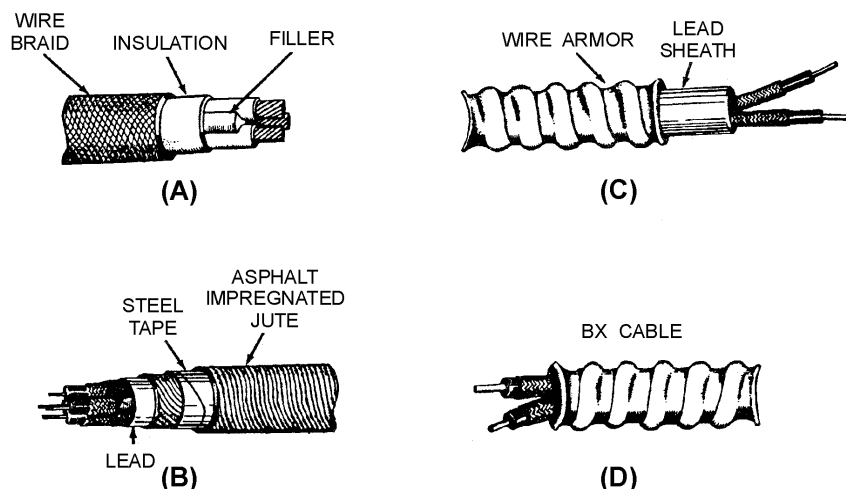

Figure 1-17.—Metallic armor cable.
Figure 1-17 shows three examples of metallic armor cable: wire braid, steel tape, and wire armor.
**WIRE-BRAID ARMOR.**—Wire-braid armor (view A of figure 1-17 ), also known as basket-weave armor, is used when light and flexible protection is needed. Wire braid is constructed much like fibrous
**STEEL TAPE.**—A second type of metallic armor is steel tape. Steel tape covering (view B of figure 1-17) is wrapped around the cable and then covered with a serving of jute. There are two types of steel tape armor. The first is called interlocking armor. Interlocking armor is applied by wrapping the tape around the cable so that each turn is overlapped by the next and is locked in place. The second type is flat-band armor. Flat-band armor consists of two layers of steel tape. The first layer is wrapped around the cable but is not overlapped. The second layer is then wrapped around the cable covering the area that was not covered by the first layer.
**WIRE ARMOR.**—Wire armor is a layer of wound metal wire wrapped around the cable. Wire armor is usually made of galvanized steel and can be used over a lead sheath (see view C of figure 1-17). It can be used with the sheath as a buried cable where moisture is a concern, or without the sheath (view D of figure 1-17) when used in buildings.